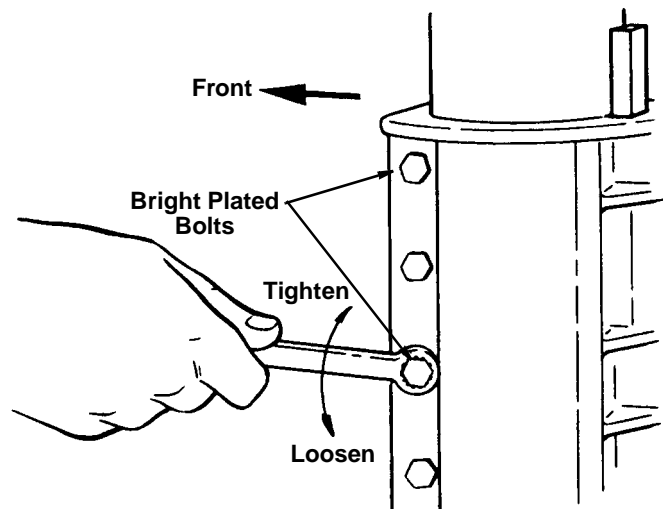

Fig. 2
1. Loosen (2) 1/4 - 20 Gib socket cap screws on the left side at the rear of the column support slightly (1/2 turn).
Using the closed end of a box wrench, tighten all of the 5/16-18 black screw heads on the column support casting 1/16th to 1/8th of a turn. Tighten the (2) 5/16-18 silver screw heads slightly more than the black ones to achieve a close fit to the column tube (Fig. 2). (A 1/4" drive ratchet with a six point socket may be needed to get enough torque on bolts.)